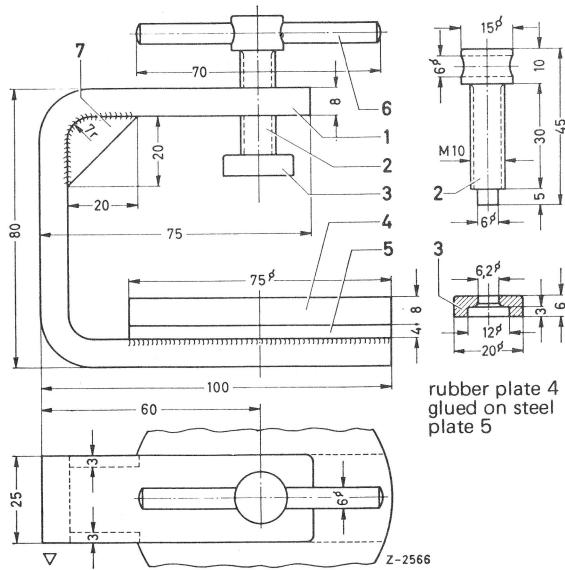

Fig. 7
Clamping device for piston	self-made according to Fig. 7
Note: The clamping fixture (21) is self-made according to dimensions shown in Fig. 7. **The steel and rubber plate may have a diameter of 50 mm only.** (75 mm dia. applies to front wheel caliper).